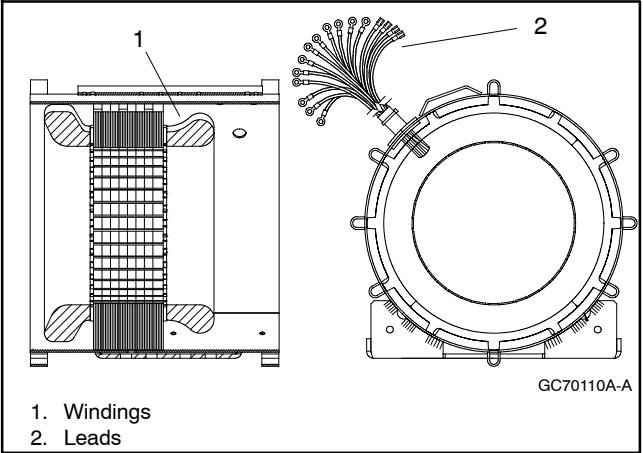

Figure 11-13 Stator Assembly
4. Visually check the stator assembly for shorted or open winding(s). See Figure 11-13.